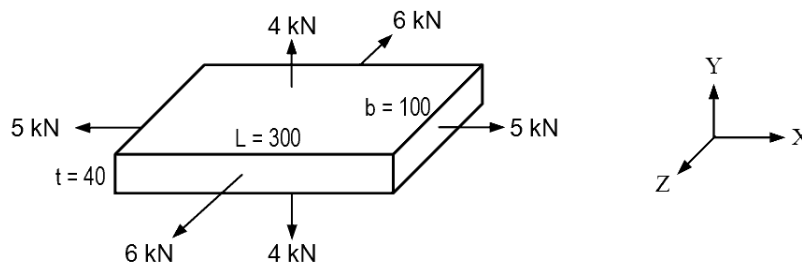

Figure.1
- b) A metallic bar $300 \text{ mm} \times 100 \text{ mm} \times 40 \text{ mm}$ is subjected to external forces as shown in fig. 1. Determine change in volume of the block. Take $E = 2 \times 10^5 \text{ N/mm}^2$, $\mu = 0.25$.